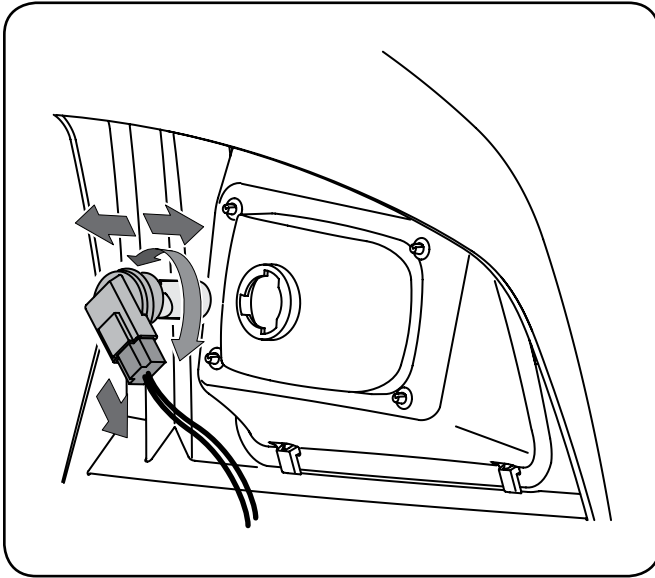

Figure 6-1
2. Turn the bulb/socket assembly approximately a 1/4-turn counter-clockwise to align its tabs with the notches of the reflector, then remove from the reflector. See Figure 6-1.